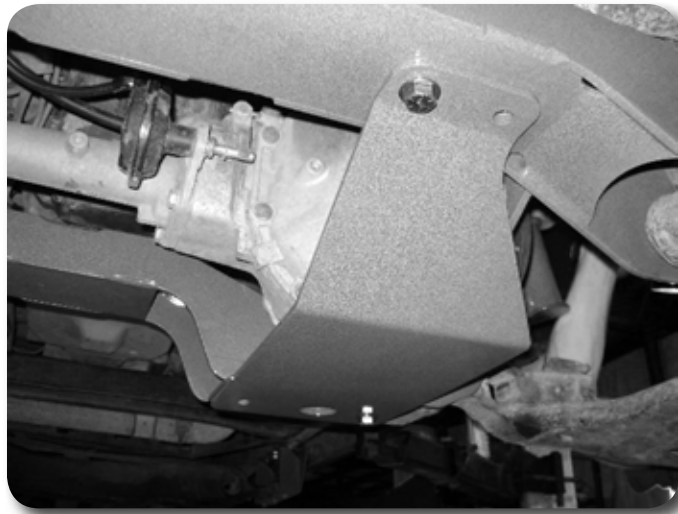

Figure 13
37. Install the provided differential skid plate to the front and rear crossmembers with 1/2" x 1-1/4" bolts and 1/2" SAE washers into the threaded holes in the crossmembers **Figure 13**. Leave hardware loose.